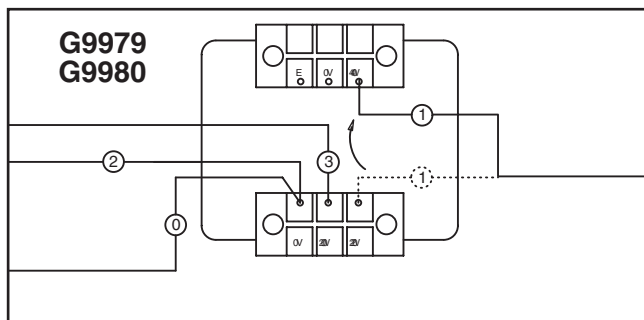

Figure 7. 440V transformer connection.
3. On the transformer, remove the wire connected to the 220V terminal for your model of sander, and connect it to the 440V terminal as shown in **Figure 7**.